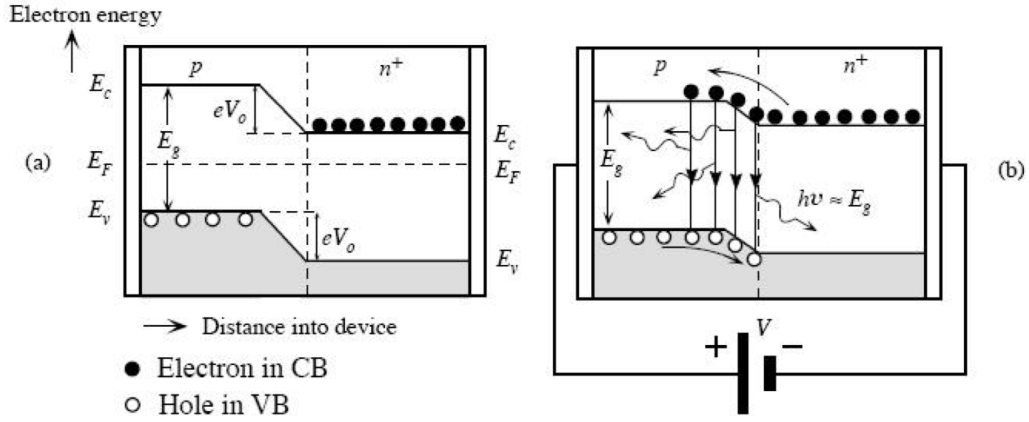

Figure 2: Basis of an LED. From [https://www.ele.uri.edu/~vijay/ELE432\\_Report\\_LED.pdf](https://www.ele.uri.edu/~vijay/ELE432_Report_LED.pdf).
Extending this idea, we now look closely at an LED, which is a PN junction optimized to emit light, as shown in Fig. 2.
In Fig. 2(a) the electrons (black dots) in the N material sit in their conduction band (CB). The holes (white dots) sit in their valence band (VB) on the other side of the barrier. The  $y$ -axis is now an energy axis, and note the VB energy is less than that of the CB. In (a) the shelf-height  $eV_0$ , keeps the two charges separate across the barrier. However, in (b), when an external voltage is applied  $V_{app}$  as shown,  $V_0 \rightarrow V_0 - V_{app}$ . Thus the barrier is lowered as shown in (b), and the electrons can now flow into the P material.
We'll have more to say about this later, but for now suppose that for an LED,  $E_g$  is related to  $V_b$ , which is the threshold of the applied voltage at which the LED just begins to emit photons. The “b” stands for “barrier potential.” In Fig. 2, it's the applied voltage that lowers the barrier voltage just enough to allow electrons to flow into the P material and subsequently recombine with holes to emit photons.
In short, if you look back at Fig 2, it is not clear why the  $V_b$ , the voltage  $V_0$  needs to be lowered by to commence photon emission, is not only related to the band-gap energy  $E_g$ , but *equal* to it. It is hard to ignore though, because this experiment does such a good job at delivering an experimental value for  $h$ . We'll discuss this all more as we go, but let's look at some data first.
If you reflect on the LED structure from the introduction, it is not clear why these experiments give a reasonable value for  $h$ . Why would the voltage needed to lower  $eV_0$  in Fig. 2, as in  $eV_0 \rightarrow e(V_0 - V_{app})$  be related to the band-gap energy  $E_g$  of the LED?
We claimed LED current starts to flow when an applied  $V$  lowers the shelf in Fig. 2 so that electrons may cross the barrier. We stated that if  $V_0 \rightarrow V_0 - V_b$  with a sufficient  $V_b$ , current can flow and light will be emitted. So Eqn. 5, would become